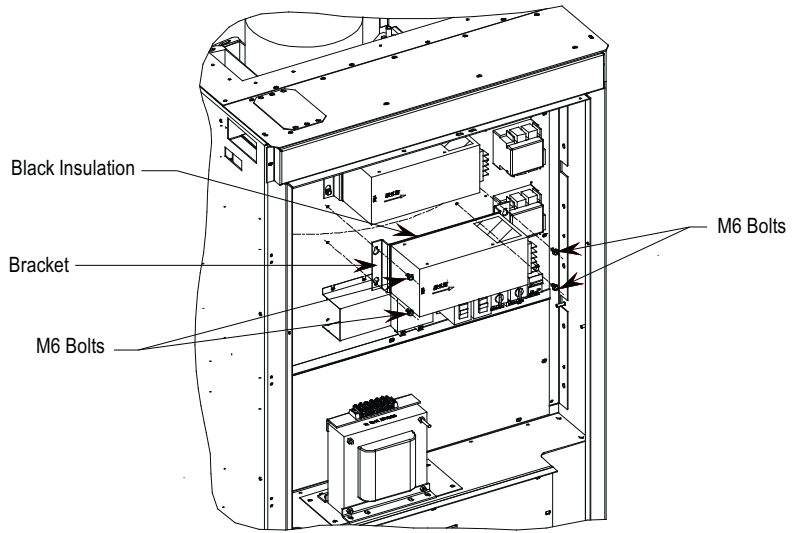
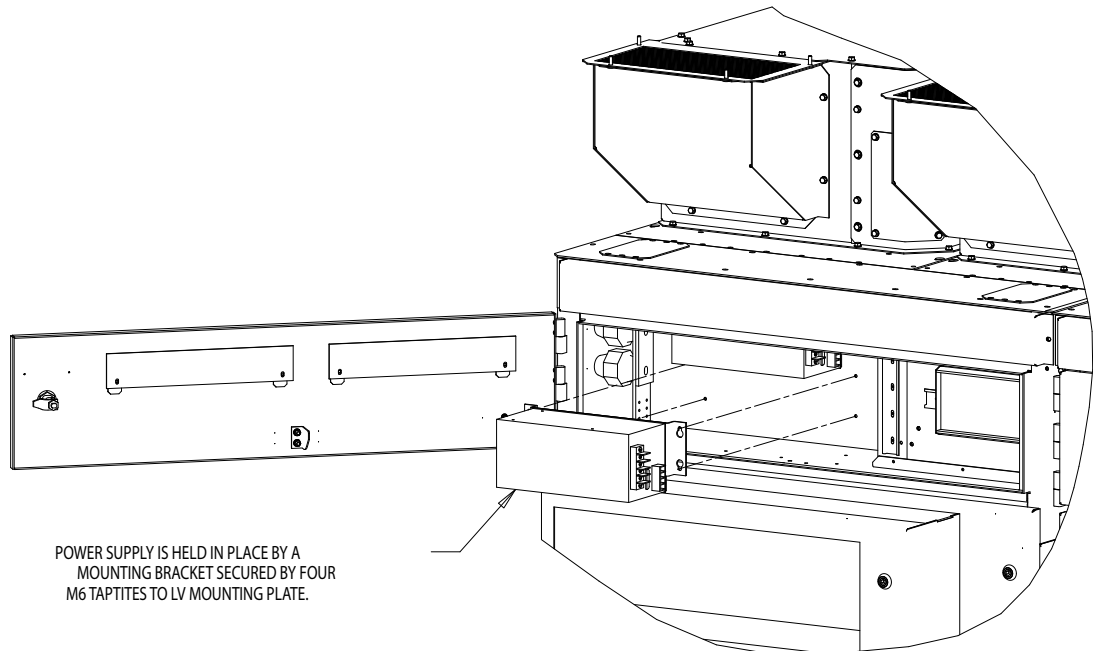

Figure 85 - Replacing AC/DC power supply on LV panel (standard model)
Figure 86 - Replacing AC/DC power supply on LV panel (heatpipe model)
3. Remove the four M6 bolts per Figure 85/Figure 86.